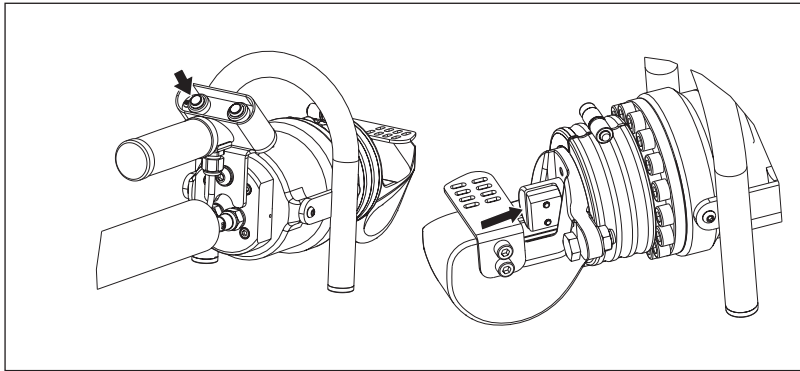

Figure 10, Operation - Retract
- Press and hold the **retract** push button to retract the piston and slide the moving blade backward. See Figure 10.